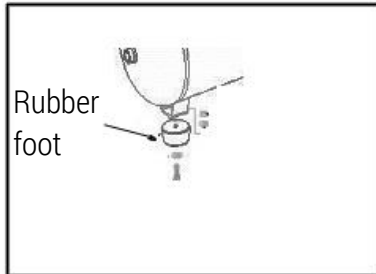

Figure 1
1. Insert bolt through hole in rubber foot (See Figure 1).